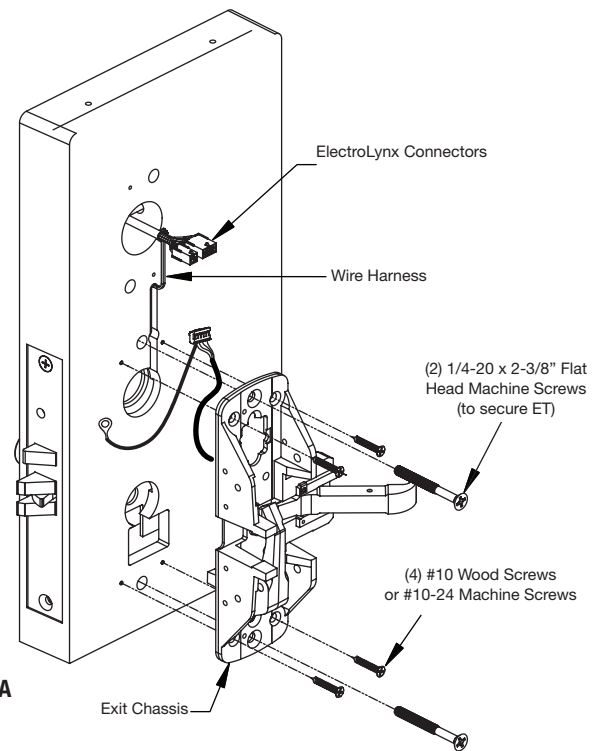

Fig. 4A
1. Route ET wire harness along track cutout for wood doors and access hole for metal doors (Fig. 4A).